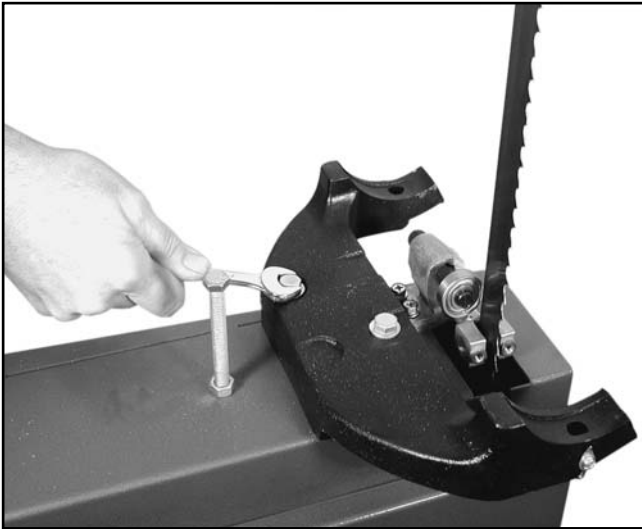

Figure 3. Trunnion support in correct position.
2. Position the bracket over the alignment holes on the bandsaw body. Alignment pins are located on the bottom of the table support bracket. Secure the bracket with the two bolts. **See Figure 3.**